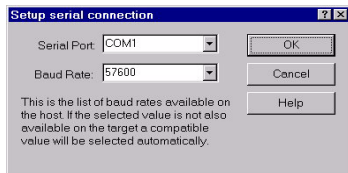

Figure 4 Setup serial connection dialog
9. Now click on the **Configure** button. The **Setup serial communication** dialog box is displayed (see Figure 4 on page 8).